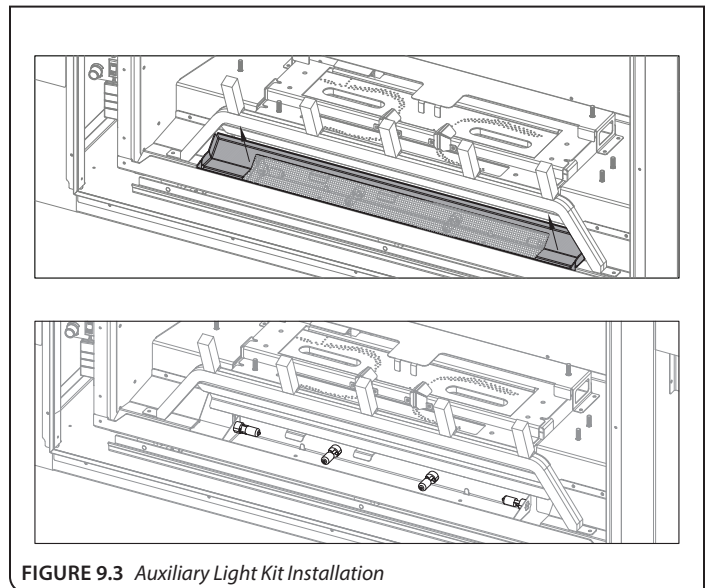

FIGURE 9.3 Auxiliary Light Kit Installation
2. Remove the media tray (see FIGURE 9.3).
3. Install (4) halogen bulbs (included in component packet) into lamp bases.